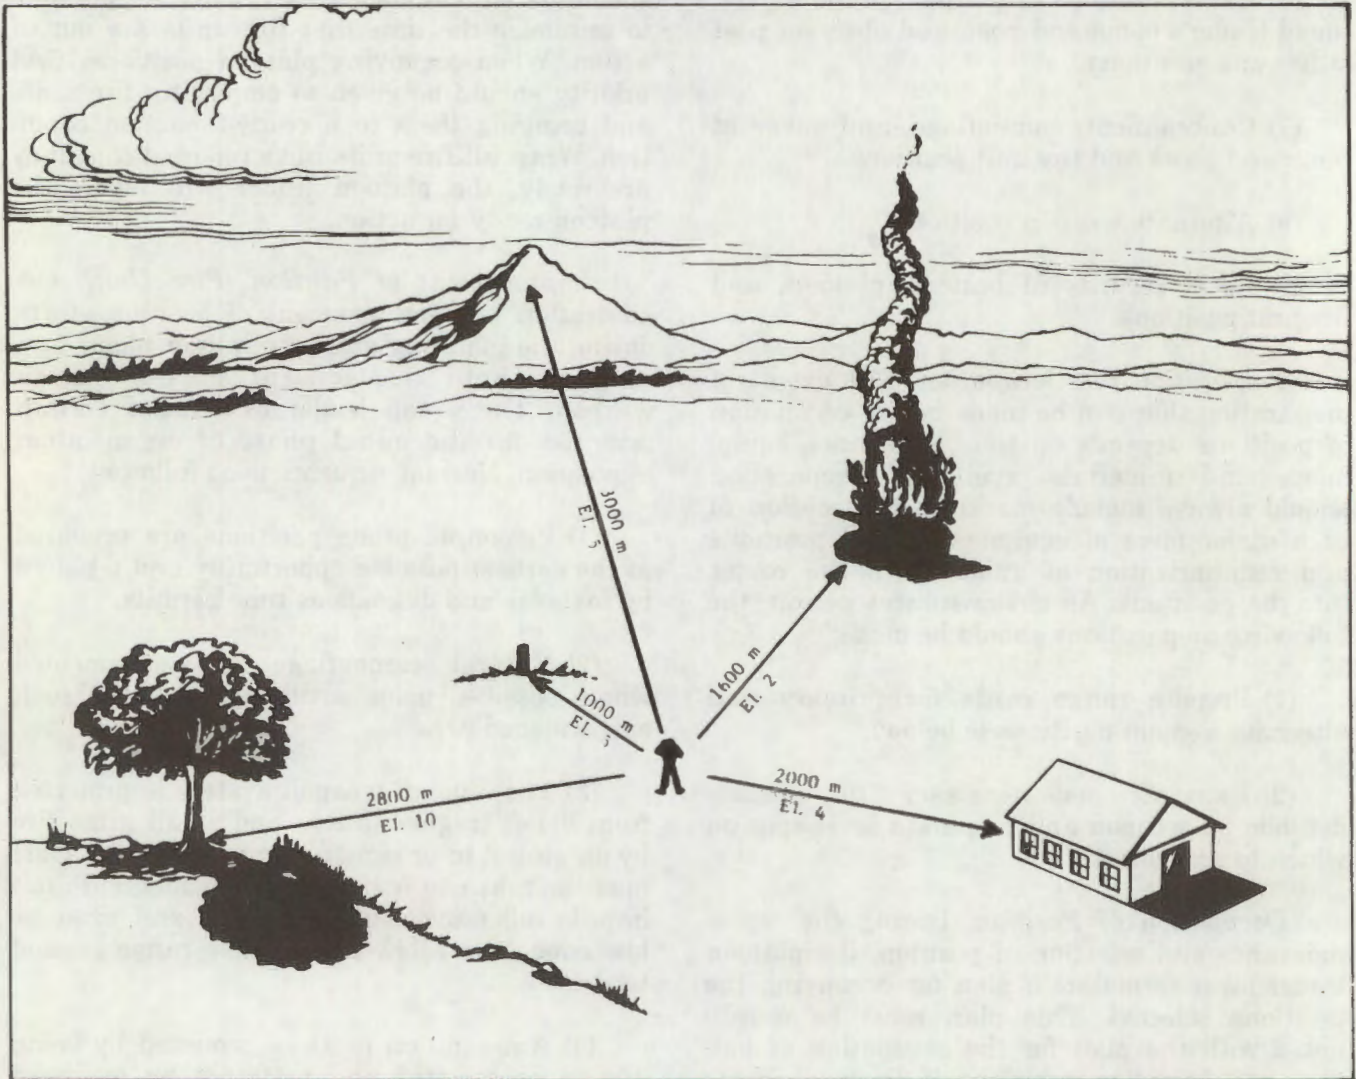

Figure 6-1. Typical range card.
(1) Personnel prone positions are prepared at the earliest possible opportunity and replaced by foxholes and dugouts as time permits.
(2) Natural camouflage is supplemented where possible, using artificial materials, such as garnished nets.
(3) The Vulcan weapon system is protected from blast, fragmentation, and small arms fire by digging it in or constructing revetments. Care must be taken to insure that revetments do not impede full movement of the gun and must be low enough to allow fire at close-range ground targets.
(4) Ammunition must be protected by being dug in or revetted and protected by overhead cover.
(5) Work on alternate and supplementary positions is initiated as early as possible to expedite displacement in the event the primary position becomes untenable.
e. Range Cards. After marking the location of each Vulcan weapon site with a stake, if time permits, the platoon leader or squad representative should construct range cards (fig. 6-1) for use by the weapon crew for the delivery of effective ground fire immediately upon their arrival. The card should indicate ranges to critical points on all likely avenues of approach,